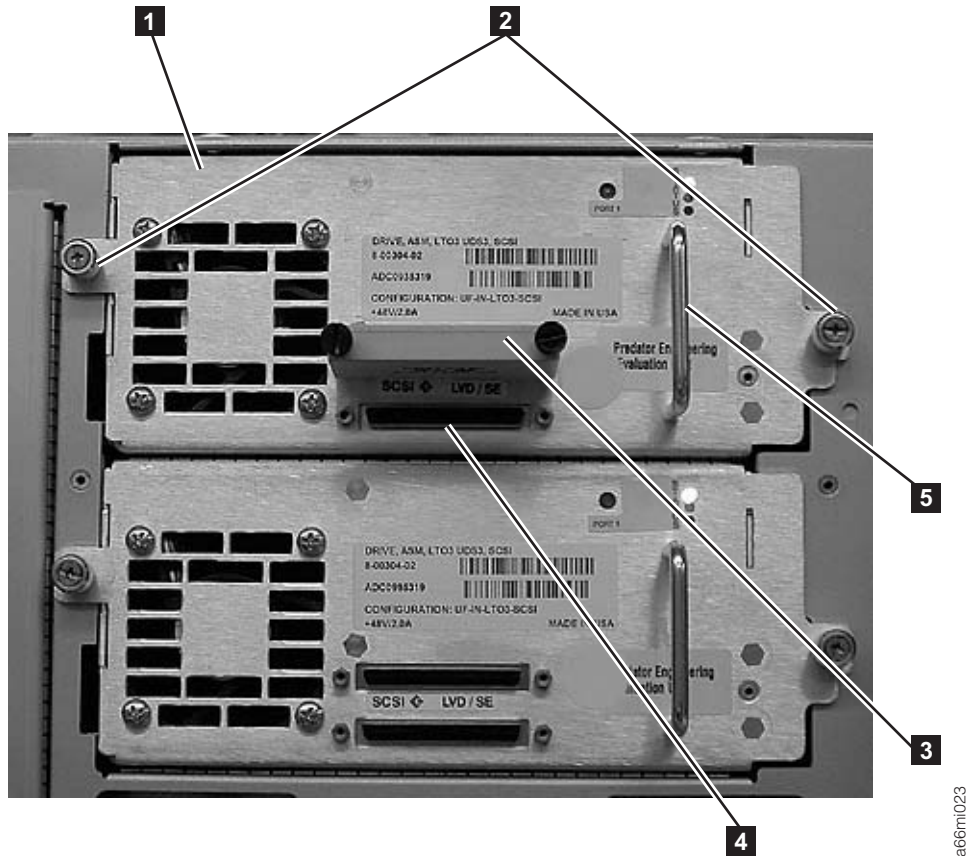

Figure 3-6. SCSI drive sled (detail)
1. Loosen the two thumb screws (**2** in Figure 3-6) that hold the drive sled in place by turning them counterclockwise.
2. To remove the drive sled, grasp the handle (**5** in Figure 3-6) and slowly pull it toward you, while the drive sled is supported from underneath.